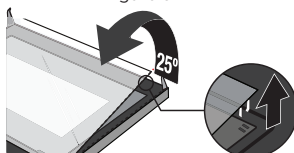

Figure 4
4. Separate the glass carefully by lifting it approximately 25° .(Figure 4)